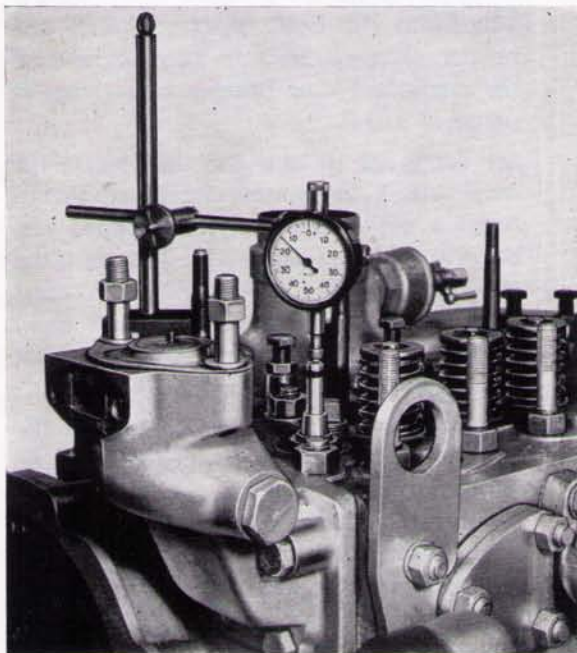

Fig. M.9.
7. Set up a dial indicator gauge as shown in Fig. M.9, with the plunger resting on the top of the valve stem.